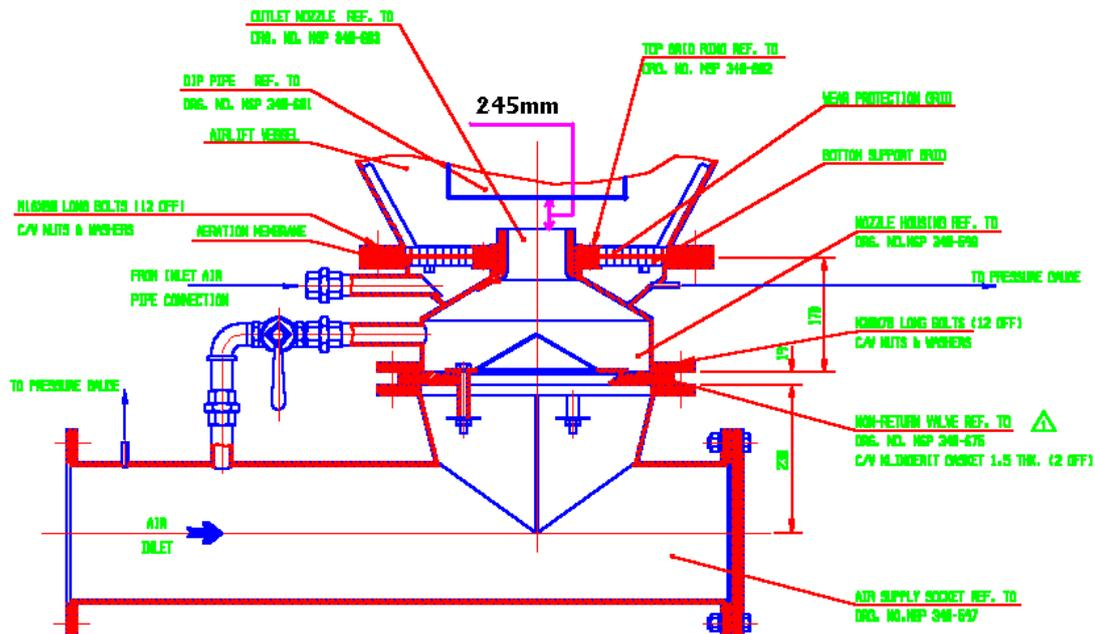

Figure 5: Detail of Airlift Vessel Inlet Nozzles and Dust Conveying Pipe
- The *Contractor* in conjunction with the *Supervisor* inspects the nozzle dust conveying pipe gap. The *Contractor* rectifies this if necessary. Refer to Figure 5: Detail of Airlift Vessel Inlet Nozzles and Dust Conveying Pipe.
- The flange after the air inlet pipe section (03). The air inlet pipe section is also corrosion protected.